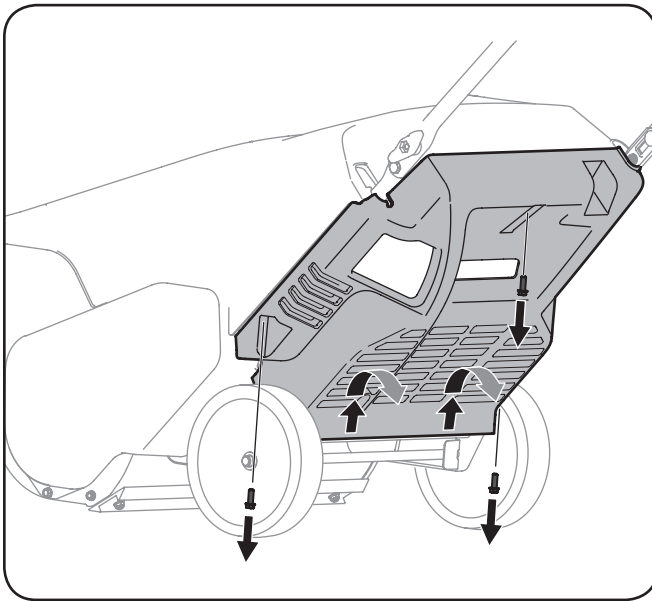

Figure 6-3
2. Remove the three screws that secure the lower panel. Remove the lower panel by lifting up on the panel to free the tabs at the bottom of the panel from the tab slots and then pull back. See Fig. 6-3.